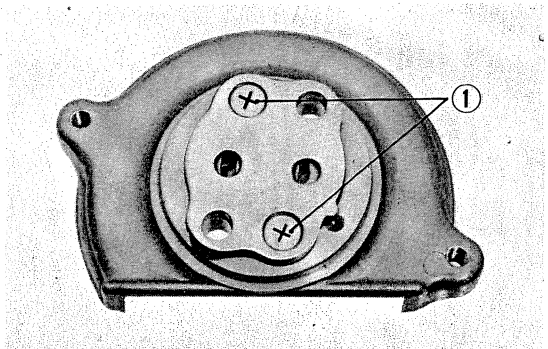

Fig. 59 Oil pump disassembly
① 6mm bolts ② Oil pump body
- 8) Pull out the oil pump shaft, loosen two 4mm pump outer rotor mounting screws and then remove the outer rotor. (Fig. 59)